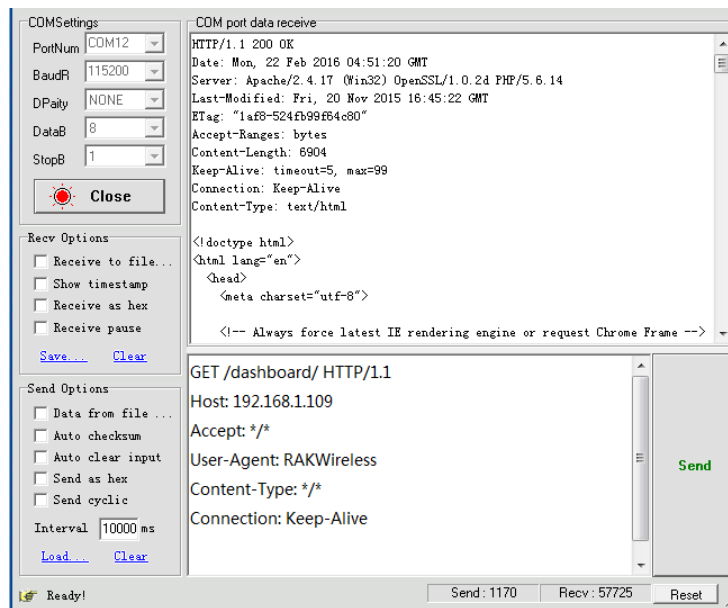

Figure 1-3 Diagram of Serial Port Sending and Receiving
1. Request a web page, as shown in Figure 1-3